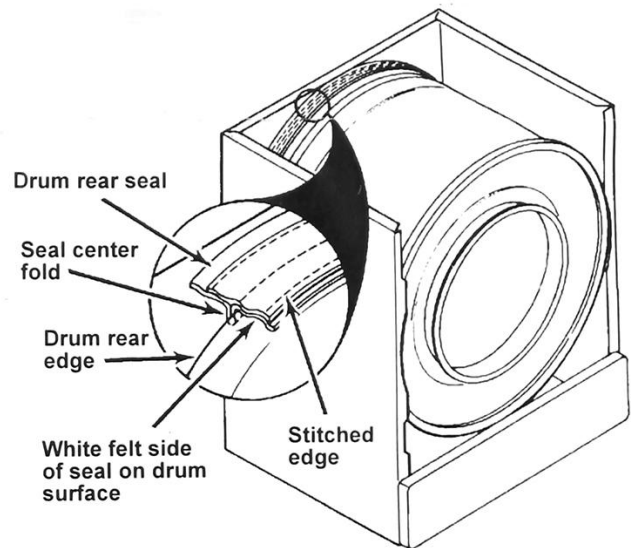

Figure 1
4. Install new seal with stitched edge toward the front of drum. See Figure 1.
NOTE: Make sure the white felt side of seal is on the drum surface. See Figure 1.